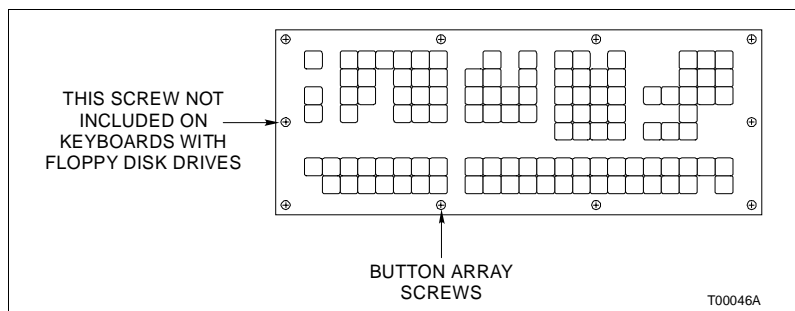

Figure PR55-1. Keyboard Button Array
2. Use the Phillips head screwdriver to remove the nine (for keyboards with a floppy disk drive) or ten (for keyboards without a floppy disk drive) button array screws that secure the keyboard button array to the keyboard base (Fig. PR55-1).